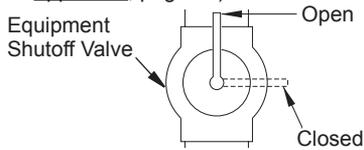

Figure 8 - Equipment Shutoff Valve
1. Close equipment shutoff valve (see Figure 8).
1. Open equipment shutoff valve (see Figure 8).
2. Close equipment shutoff valve (see Figure 8, page 11).